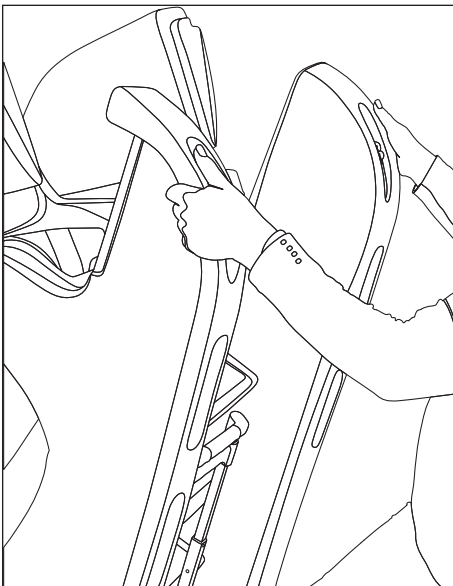

Figure 5
3. Using both hands, as shown in **Figure 5**, grab the ladder handles and slowly begin leaning the SlideAway towards you to transfer the weight of the slide onto the dolly wheels, enabling you to roll the slide to the desired location.